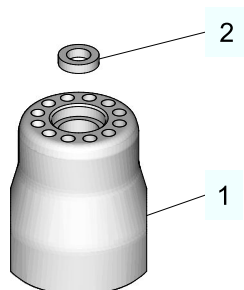

Fig.6: Inlet and wedge lock washers
1. Insert a pair of wedge lock washers (2) into the inlet (1). It must be ensured that the interlocking always points outwards, fig. 6.